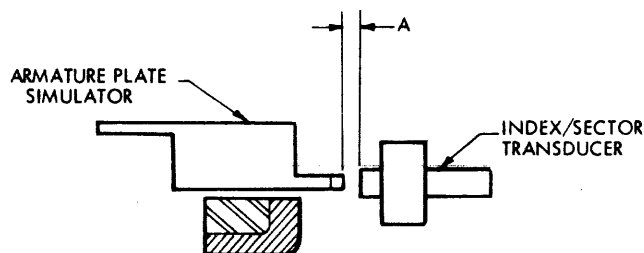

Figure 3-29. Index/Sector Transducer Adjustment
5. Install armature plate simulator onto spindle as shown in figure 3-29.